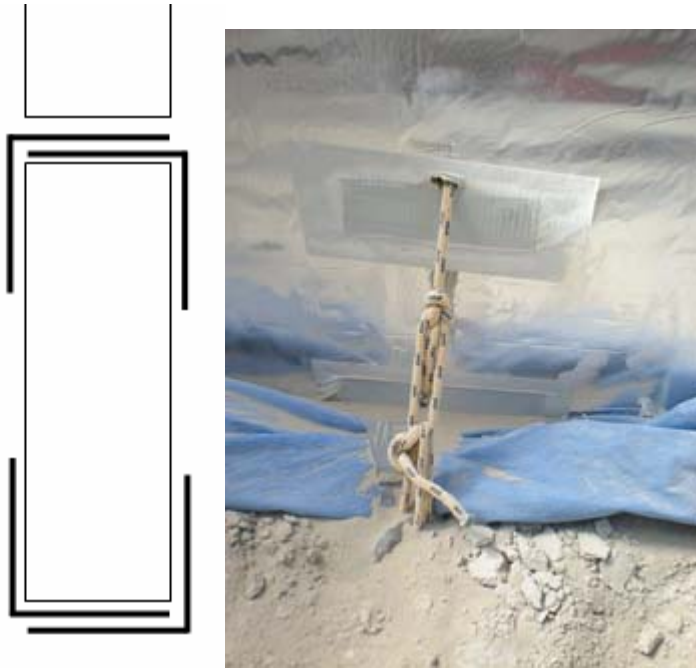

Figure 5: Anchoring system
2. Cut slits in the foam the length of the pieces of the flashing about 1 ft from the bottom edge. Insert the angle flashing as a sandwich through the slit. Sandwich two more pieces at the bottom edge of the wall (Figure 5, left).
5. Tighten with a trucker's hitch (Figure 5, right).